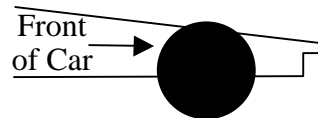

FIGURE 22
2. **Body Shape** - The body can be shaped such that it allows the car to start rolling before the starting gate is fully retracted. This gives the car a fraction of a second head start over other cars (see Figure 22). The disadvantage to this technique is that the car has an oddly shaped front end.